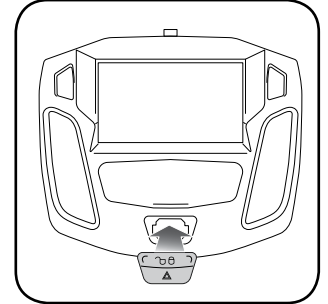

Fig. 2.2
2. Install the combination hazard/lock switch into the FOC1 bezel (the other hazard switch is not used). (Fig. 2.2)